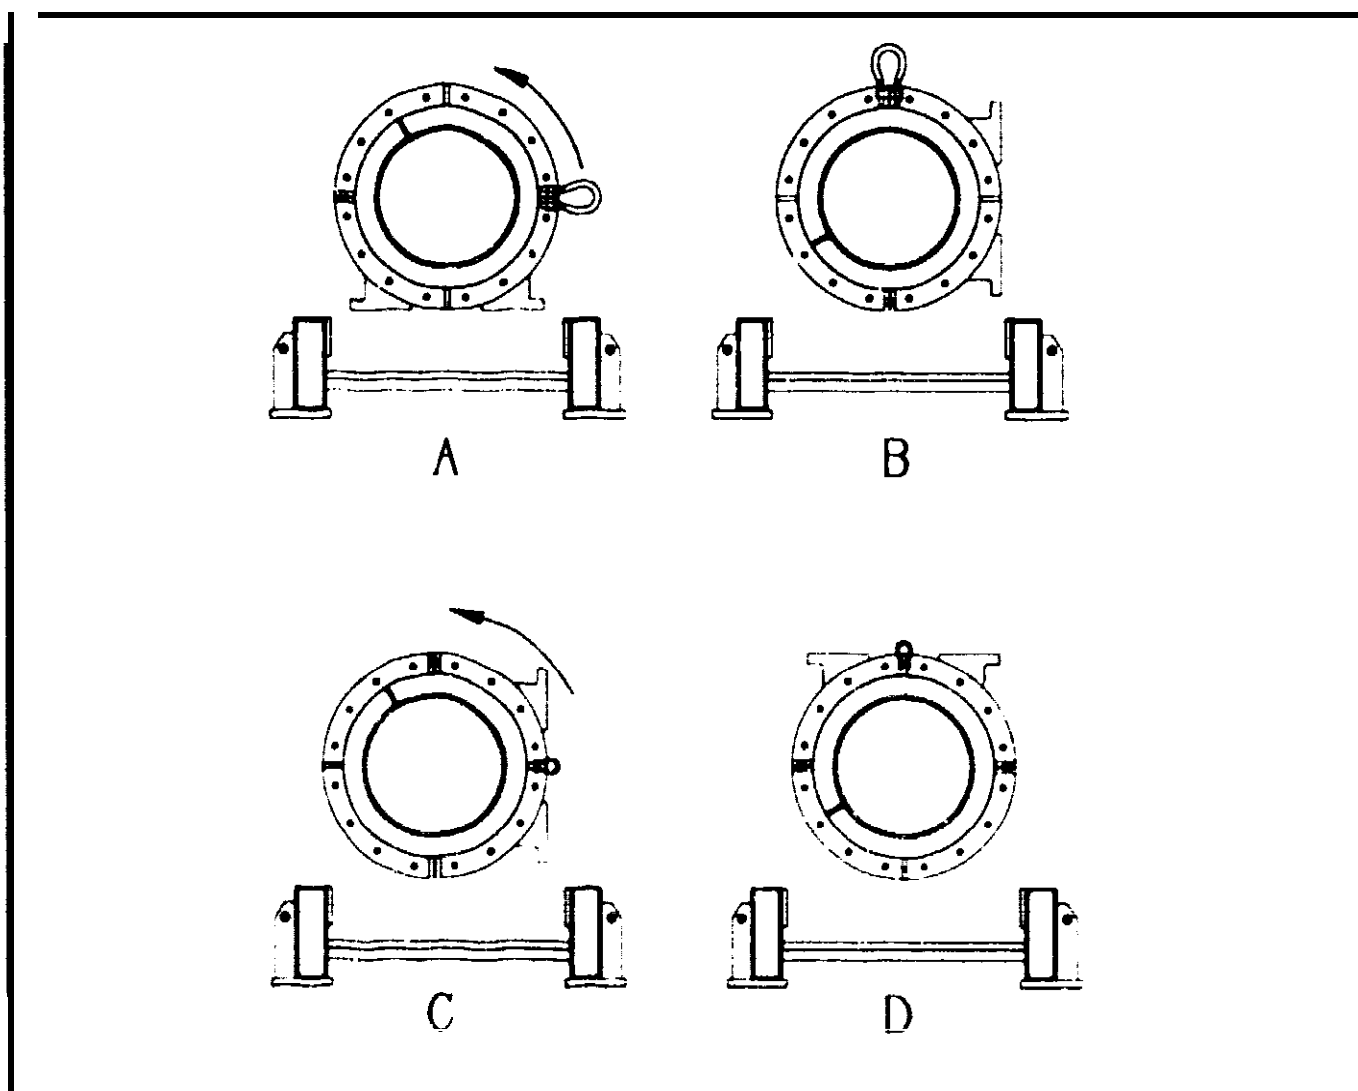

Figure 5.7-3
6. Attach lifting shackles through two of the bolt holes in the split flange on the same side of the cage. Attach a suitable overhead lifting device to the shackles (see Figure 5.7-3. A).
7. Carefully lift up on the cage with the lifting device attached in Step 6. The cage should rotate about the press shaft approximately 90 degrees. The split flange should now be approximately vertical (see Figure 5.7-3, B).
8. Attach the lifting shackles to the bottom longitudinal rib (see Figure 5.7-3, C) and attach the lifting device to the shackles.
9. Using the lifting device attached in Step 6, roll the cage into the position shown in Figure 5.7-3, D.